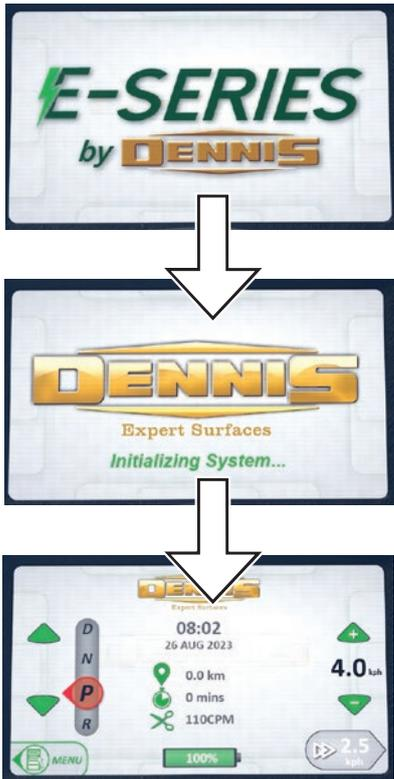

Fig. 10C - Start up sequence
3. The display screen will show a start up sequence (Fig. 10C) until the home screen appears (Fig. 5).